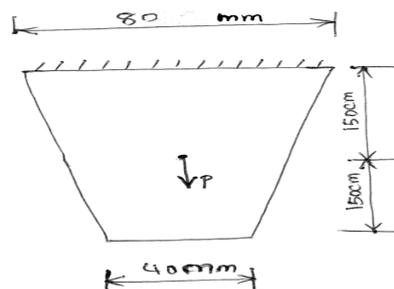

Figure-3
22. a) For a tapered plate of uniform thickness $t = 10\text{mm}$ as shown in figure-3. Find the displacements at the nodes by forming into two element model. The bar has mass density $\rho = 7300\text{ Kg/m}^2$, Young's Modulus $E = 2 \times 10^5\text{ N/mm}^2$. In addition to self-weight, the plate is subjected to a point load $P = 10\text{ kN}$ at its center. Also determine the reaction force at the support.